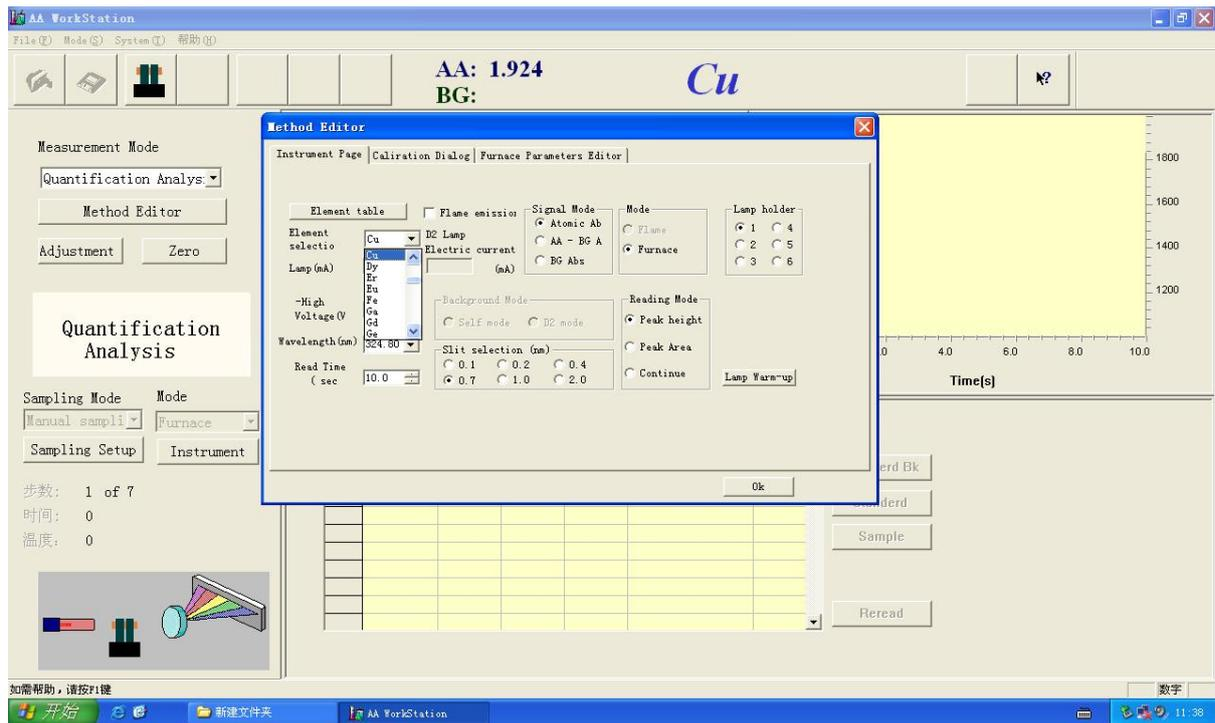

Figure 4-14
4. The other method is select one element on the “Element Selection” drop-down box and click on it (Figure 4-14), the element is checked